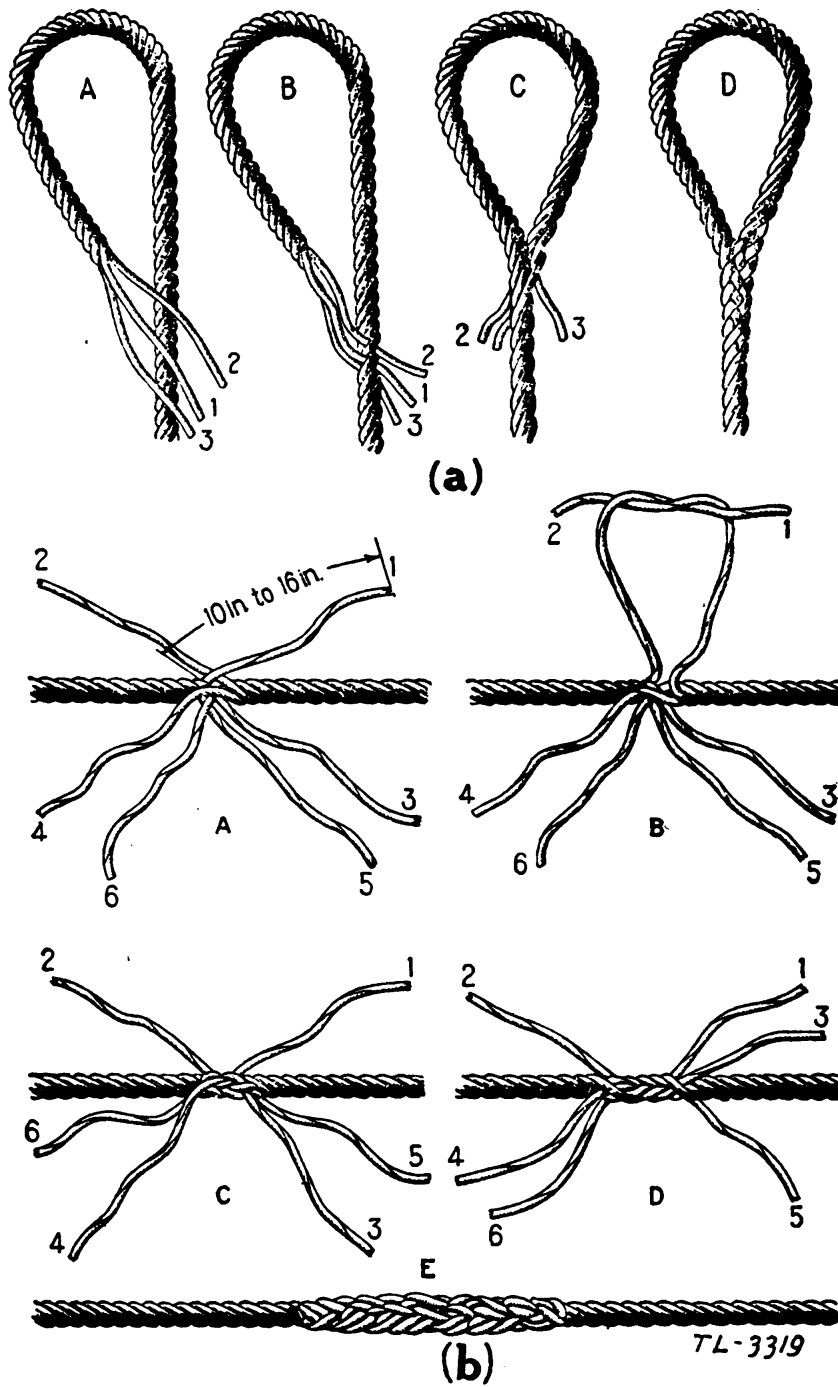

Figure 3
(4) Take strand 3 across 2 through bight in 1 as shown in 2-D.
(5) Pull all ends tight as shown in 2-E.
(6) Continue tucking each successive strand over the nearest strand and under the next strand of the main rope as shown in 2-F.
(7) Tuck until about four complete operations are made.
(8) Roll between two surfaces under pressure, as between foot and floor, to smooth out splice, then cut off surplus ends flush with the outside strands. The completed splice is shown in 2-H.
c. Eye splice.—The eye splice is used to form a permanent loop or eye, in the end of the rope. This splice has 90 percent of the strength of a straight rope. When heavy wear will take place on the inside of the eye, it is advisable to splice an oval thimble in the eye. An eye splice is illustrated in figure 3(a).
(1) Untwist the strands of the rope for a length of 10 to 16 inches. Throw a bight into the rope of a size to correspond with the size of the eye required. Select as strand 1 the strand that is on top of the rope and between the other two loose strands as shown in 3-A.
(2) Raise a strand on the top of the main rope and tuck 1 under it at right angles, as in 3-B, pulling it down securely. Raise the adjoining strand in the main rope and tuck 2 under it as in 3-B. Raise the remaining strand in the main rope and tuck 3 through.
(3) When all the ends have been tucked through for the first time, pull them down tight as in 3-C. Proceed to interweave the strands as in a short splice.
(4) Roll the splice between two flat surfaces under pressure, as between foot and floor, and trim off surplus ends flush with the outside strands. The completed splice is shown in 3-D.
d. Short straight splice.—Short straight splice is used to unite the ends of rope by interweaving strands, and when properly made it has 80 percent of the strength of the rope. See figure 3(b).
(1) Untwist the strands at one end of each rope for a length of 10 to 16 inches. Butt the ends of the rope tightly together as in 3-A laying the strands of each rope alternately between the strands of the other rope; that is, strand 1, is between 2 and 4; strand 3, is between 4 and 6, and strand 5, is between 2 and 6. This process is called locking the strand.